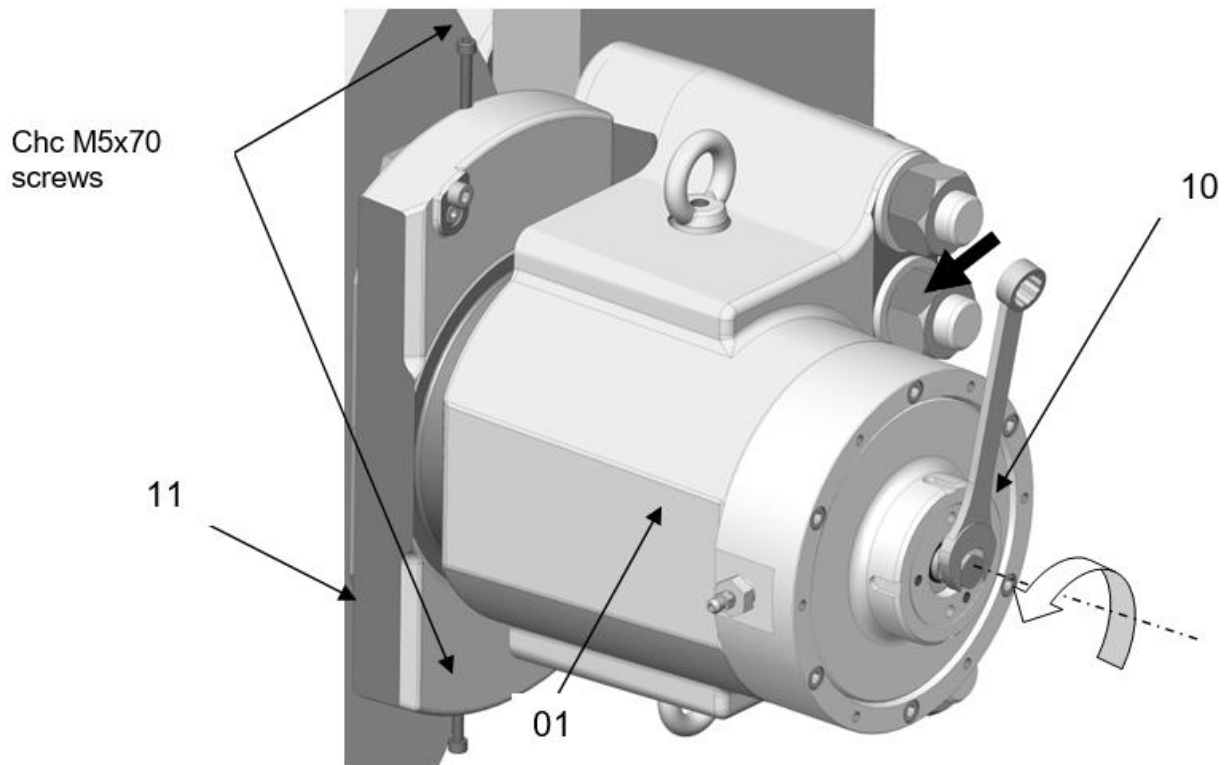

Fig. 5.4
3. Turn axis **10** with the wrench anti counter clockwise to push back the pad to the maximum Fig.5.4. The clearance between the pad holder and the disc must not be more than: 9 mm + remaining pad thickness.